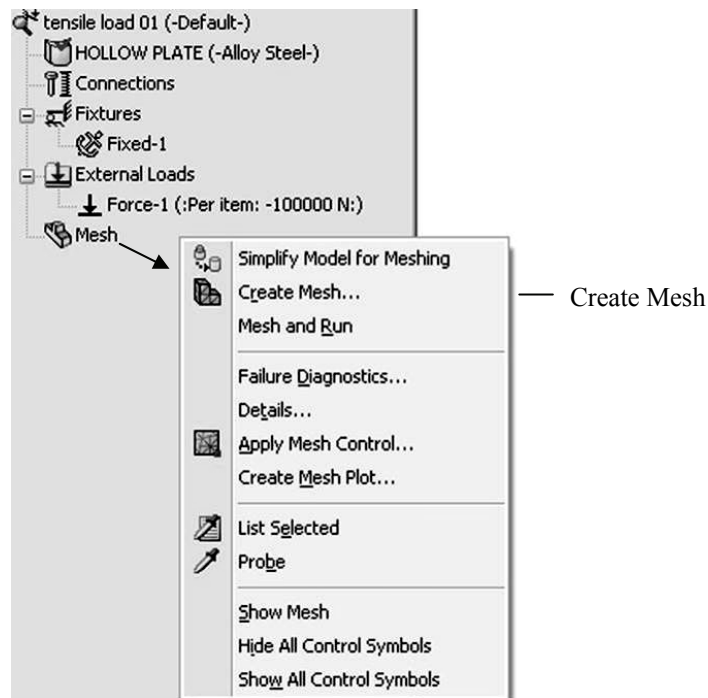

Figure 2-14: Mesh pop-up menu
Now, right-click the *Mesh* folder to display the pop-up menu (Figure 2-14).
*You can control the mesh visibility by selecting *Hide Mesh* or *Show Mesh* from the pop-up menu shown in Figure 2-14.*
The information on the number of nodes and number of elements can be found in **Mesh Details** accessible from the menu in Figure 2-14. The mesh Details window is shown in Figure 2-31.